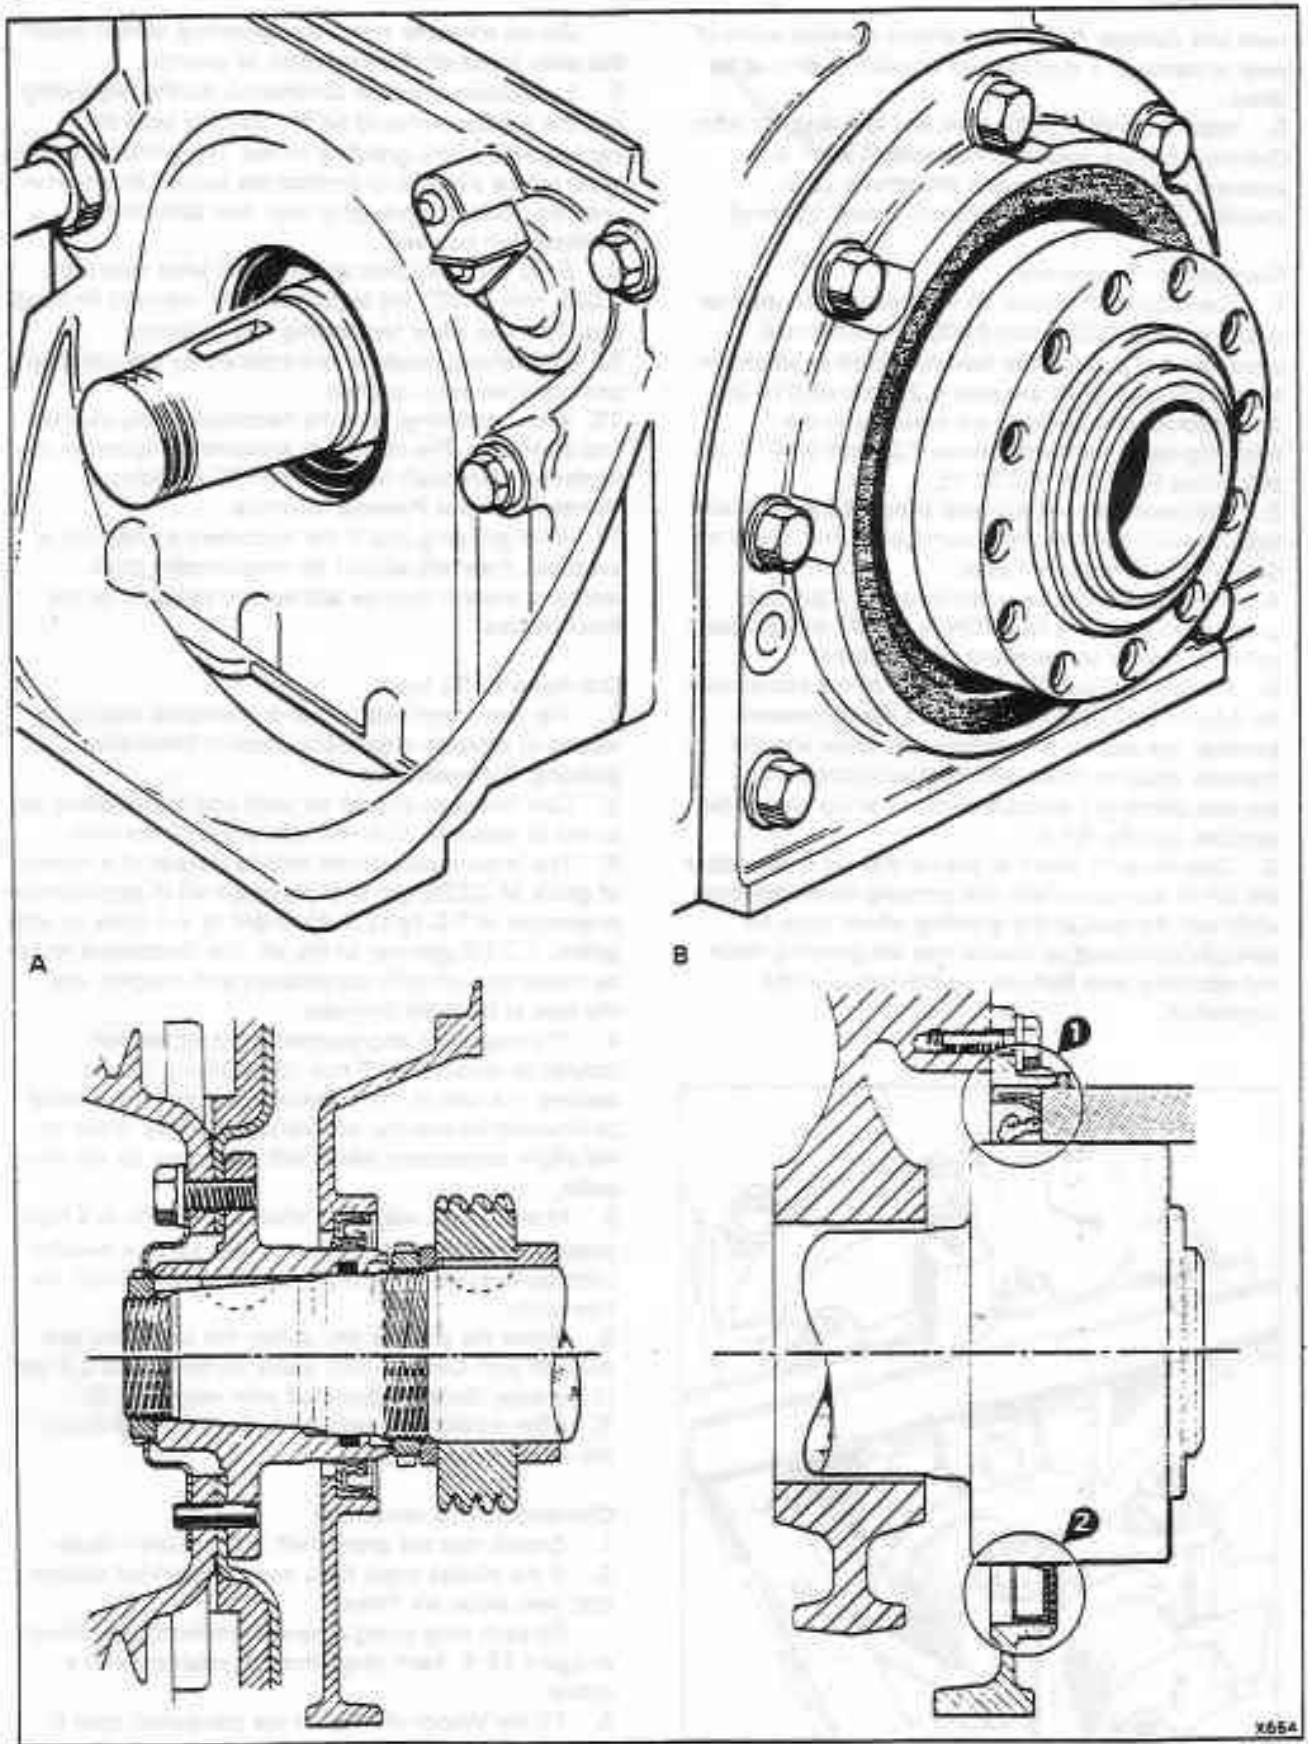

Fig. E5-2 Crankshaft seal arrangements
setscrews, and studs retaining the lower timing cover (see fig. E5-2).
20. Unscrew the setscrews and withdraw the backplate (see fig. E5-2). The backplate is dowelled to the crankcase. Discard the gasket.